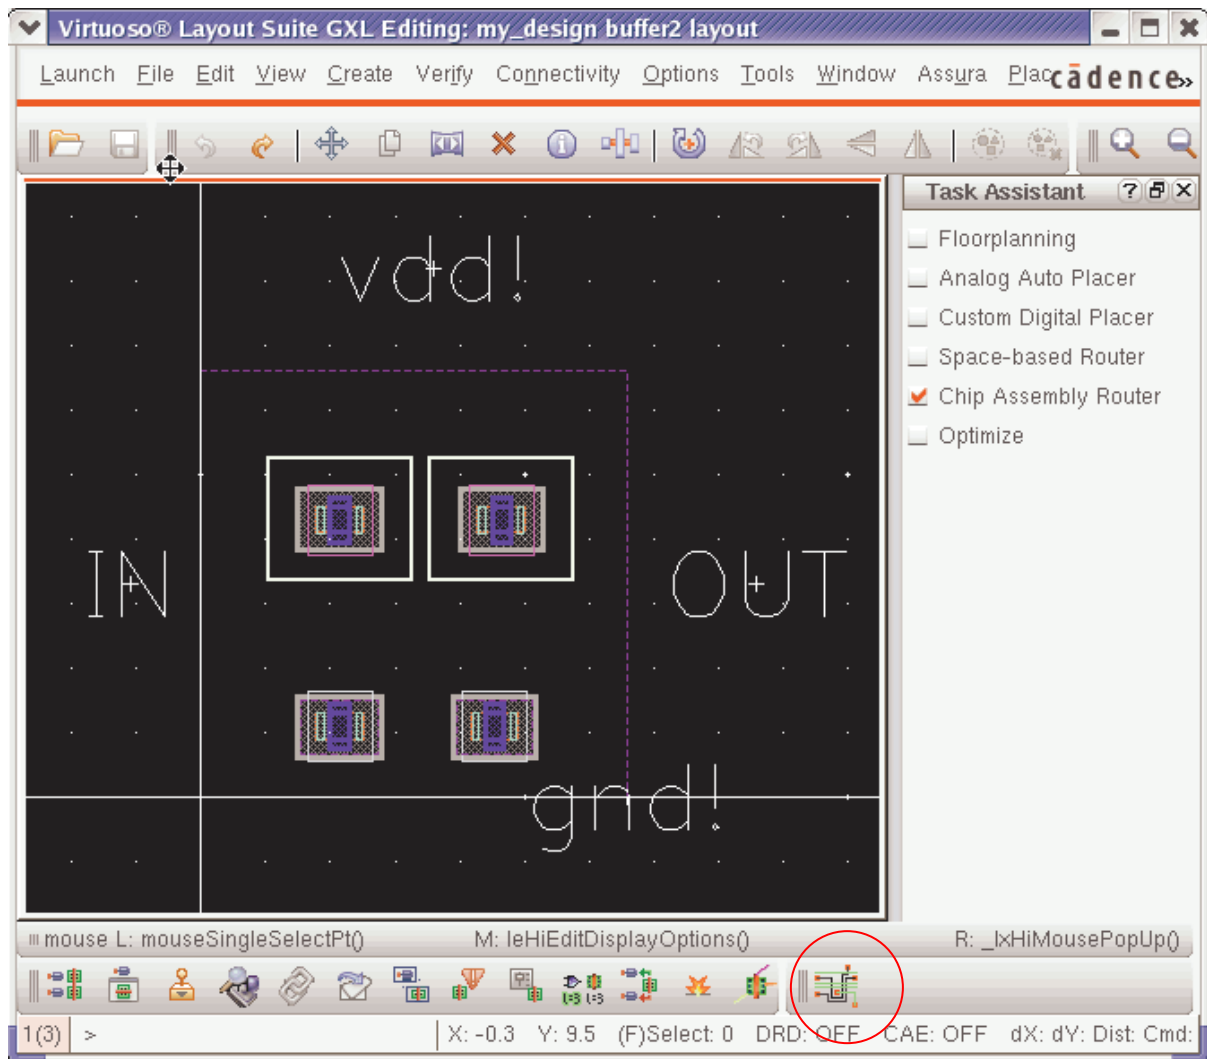

FIG. 32 Enable VCAR and Start router
- (d) From the toolbar, select Routing – Start Router. As Fig32 shows.